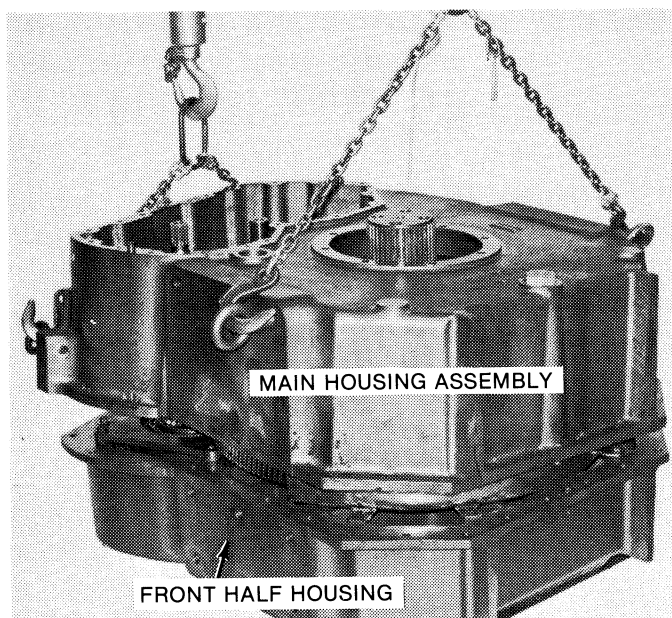

**Figure 6-26. Removing or Installing Main Housing Retaining Screws.**
1. Remove the hex-head screws (Figure 12-6, 36 and 44) that secure the main housing assembly (28) to the front half housing (37). See Figure 6-26.